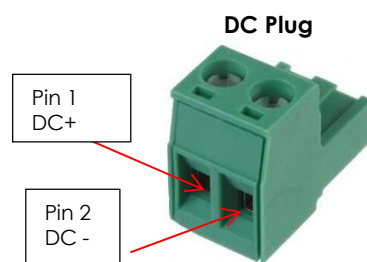

Figure 2
- If AC/DC adapter is being used, strip 1/4" (6mm) of insulation from end of DC output leads and connect to DC plug as shown in Figure 2.